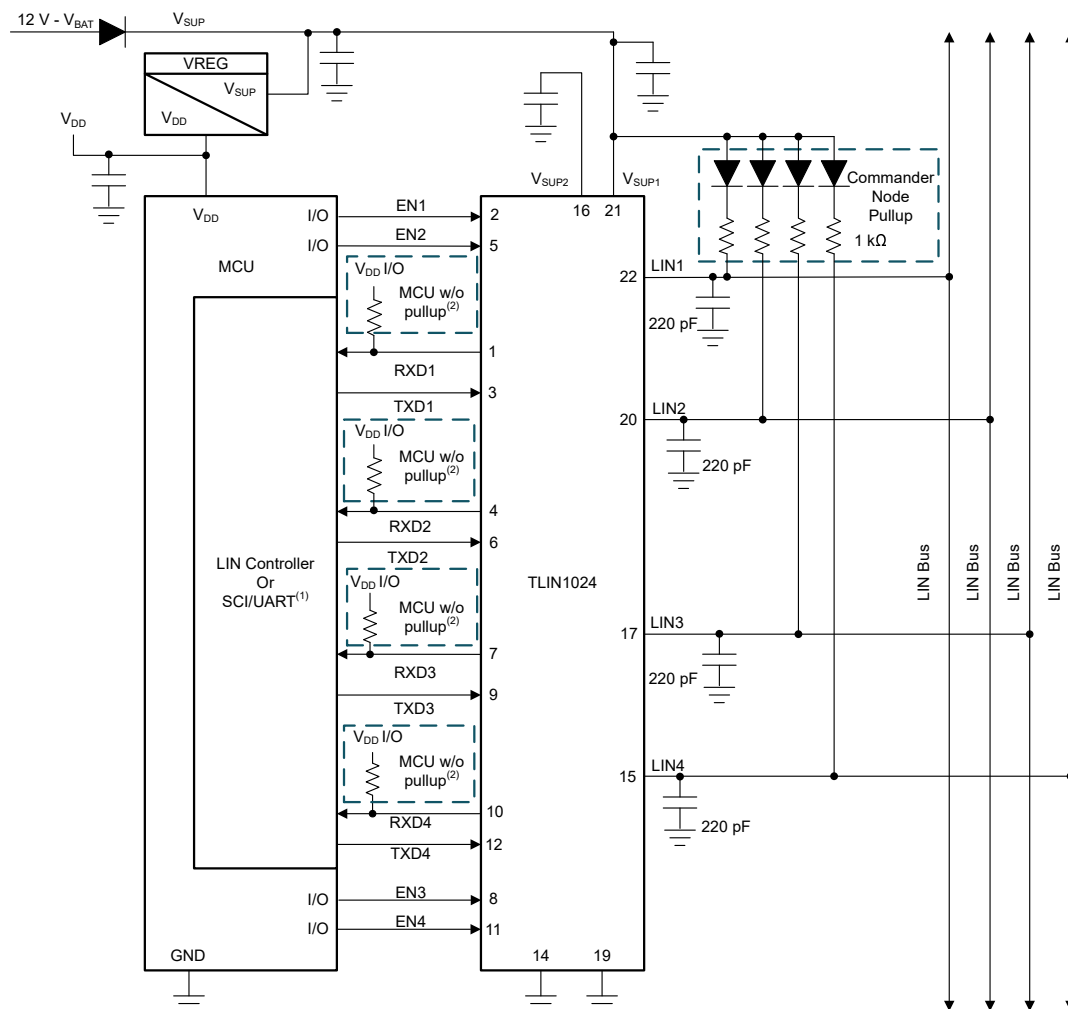

Figure 8-1. Typical LIN Bus
The device comes with an integrated 45 kΩ pull-up resistor and series diode for responder applications. For commander applications, an external 1 kΩ pull-up resistor with series blocking diode can be used. Figure 8-1 shows the device being used in both commander and responder applications.
- Pin 13, 18, 23 and 24 (NC):** Not Connected
- Pins 22, 20, 17 and 15 (LIN1/2/3/4):** This pin connects to the LIN bus. For responder applications a 220 pF capacitor to ground is implemented. For commander applications and additional series resistor and blocking diode should be placed between the LIN pin and the V_{SUP1/2} pin. See Figure 8-1.